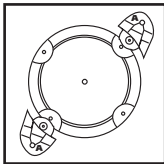
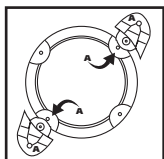

FIGURE 3
FIGURE 4
3. With front of tank inlet facing you, take caster feet marked with the letter **A**. **FIGURE 3** and insert stem of caster foot into holes on left front and right rear of tank also marked with the letter **A**. **FIGURE 4**.